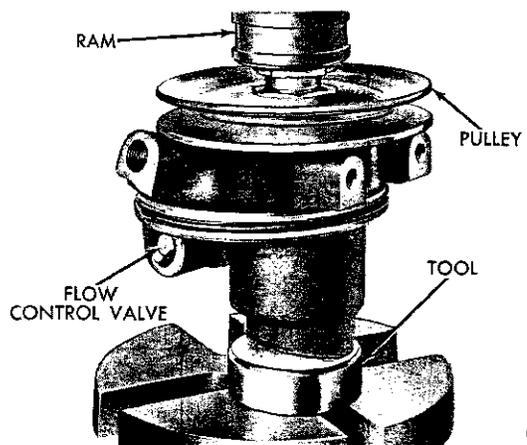

Fig. 55—Installing the Pump Pulley
(8) Support the pump body on the holding fixture, Tool C-3643, with the tool dowel pins in the pump bolt holes so that the pressure will be absorbed by the lower end of the pump shaft (Fig. 55).
(8) Install pulley, (Fig. 55).